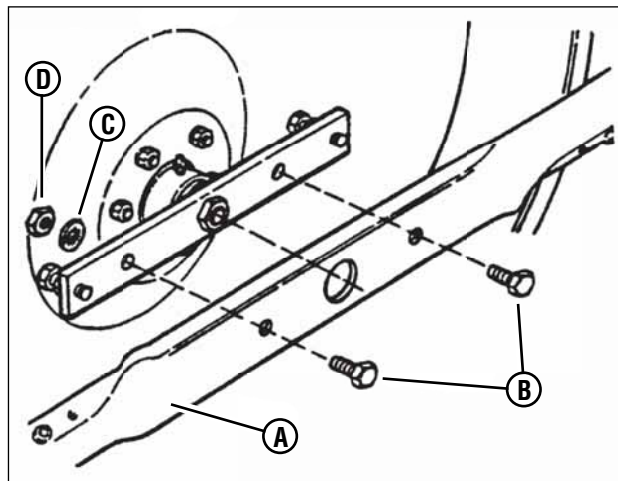

Figure 42: Removing the mower blade
3. Remove the bolts (**B**, **Figure 42**), washers (**C**) and nuts (**D**) securing the mower blade (**A**) to the spindle.